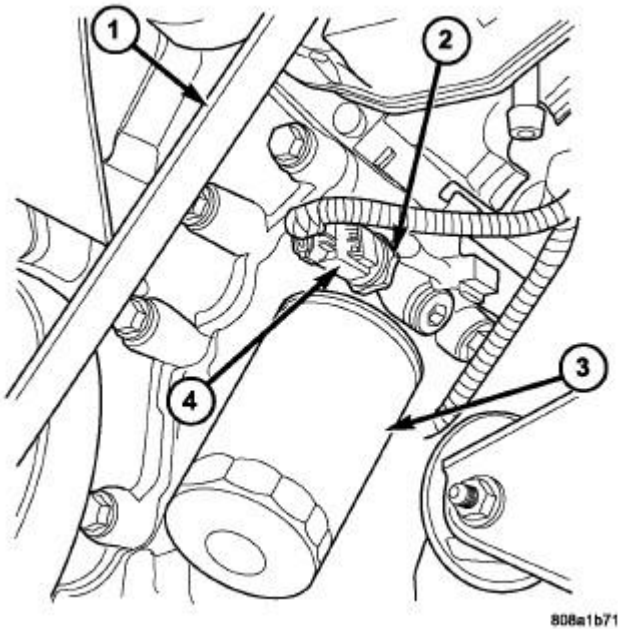

Fig. 120: Belt, Oil Pressure Sensor, Oil Filter & Connector
1. Remove oil pressure sending unit (2) and install gauge assembly (special tool #C-3292A, Gauge, Pressure). Refer to **Fig. 120**.